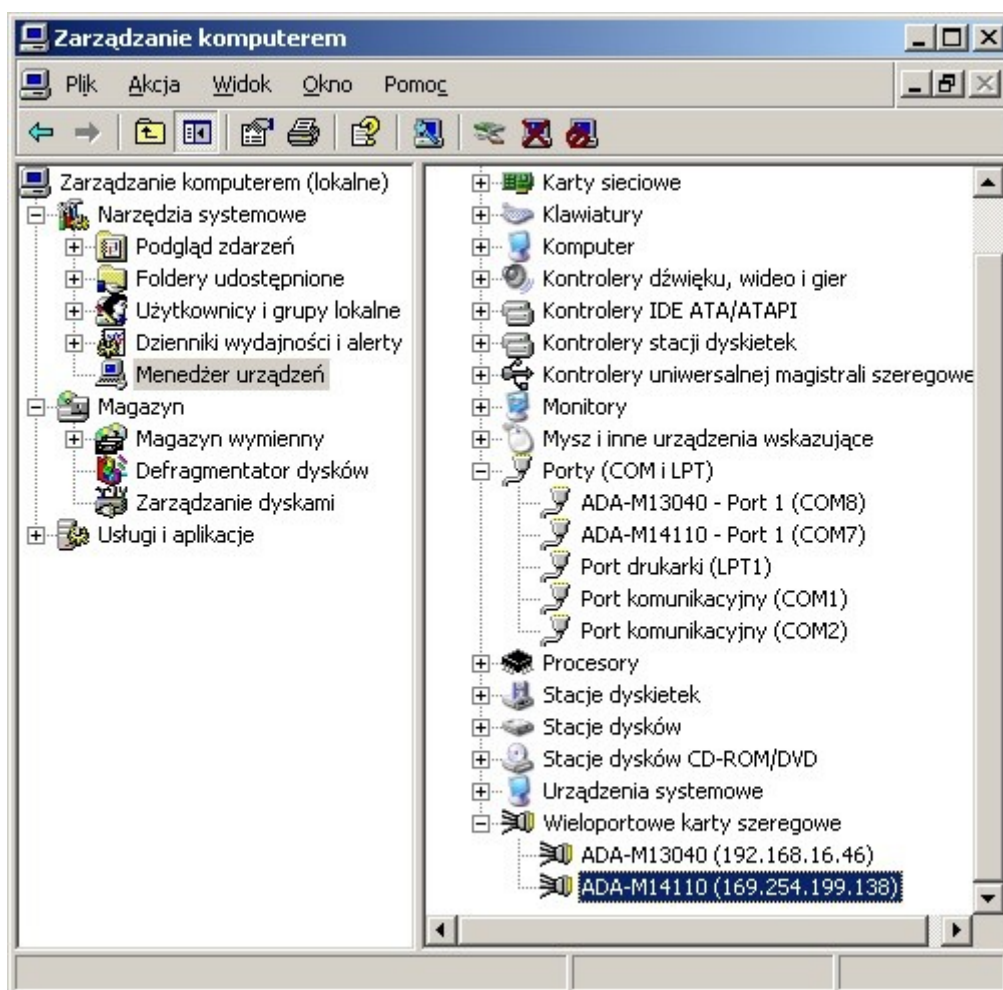

Fig. 32. Devices view on Windows XP
3. Press **[Ports (COM & LPT)]**. On fig. 32 are shown available serial ports COM1, COM2 and **COM7** marked as **ADA-14110** which was created after installation of RealPort driver.